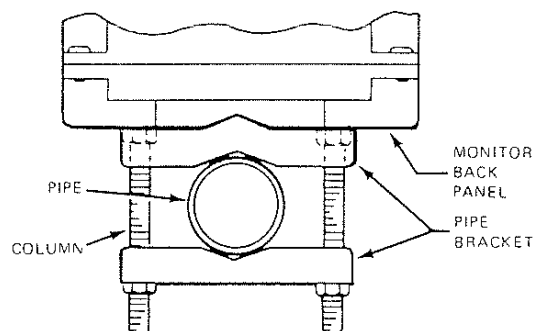

Figure 7.
2. Place one pipe bracket over four columns with flat side against Monitor back panel. Position bracket so that notches in bracket will contact pipe. Secure bracket with four nuts. See Figure 7.
3. Hold Monitor against either horizontal or vertical pipe and slide the remaining pipe bracket over the four columns so that notches in bracket contact pipe (Figure 7).